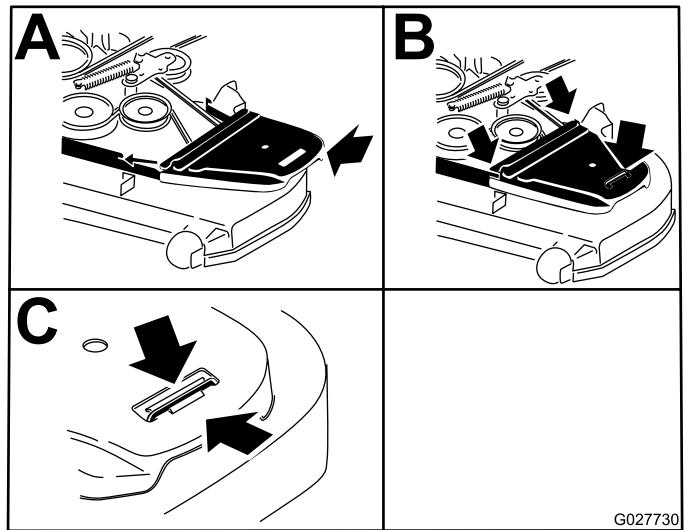

Figure 85
- 14. Install the belt covers (Figure 85).